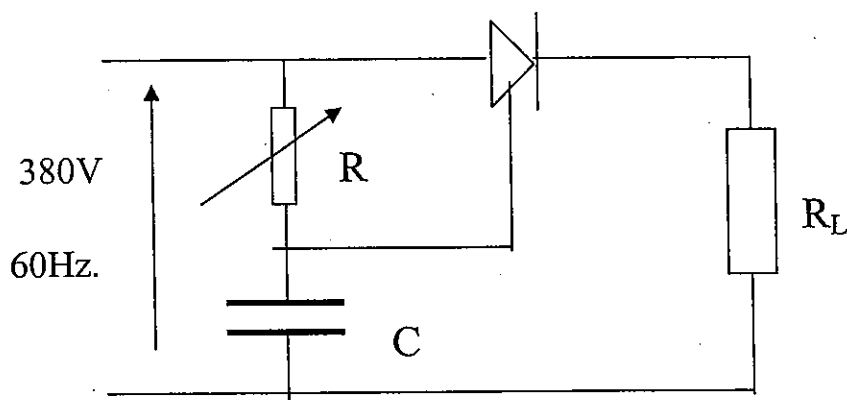

Fig Q8
- (a) the current in the neutral conductor; (8)
- (b) its phase angle relative to the red phase voltage; (4)
- (c) the total power dissipated by the circuit. (4)
7. (a) Describe the FOUR conditions which have ideally to be met before an alternator can be safely connected to live busbars. (8)
- (b) Explain the process by which load can be taken up by a newly synchronised alternator. (2)
- (c) Describe the result of increasing the excitation of an alternator which is sharing a load without increasing the power input to the machine. (6)
8. (a) State the conditions necessary to *turn on* and *turn off* a silicon controlled rectifier (thyristor). (4)
- (b) Describe the operation of the trigger circuit shown in Fig Q8. (8)
- (c) Sketch load circuit voltage waveforms for EACH of the following delay angles: (2)